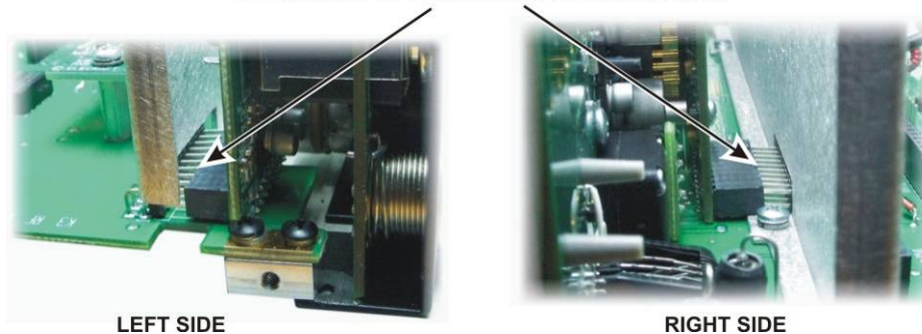

Figure 52. Mounting Front Panel Assembly - Connectors P50 and P51.
□ Look at the two multi-pin connectors on the top of the RF board to see if they are engaging the corresponding connectors on the front panel assembly (see Figure 52). Adjust the position of the RF board or the front panel assembly to ensure they are mating properly.